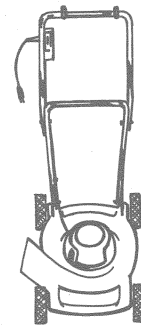

FIGURE 21
Your mower should be stored in a dry place, and to save space it can be hung on a wall (Figure 21) as follows:
3. Mount brackets on the wall, spaced to fit under both sides of the handle grip. Keep mower deck and handle parallel and hang on brackets (Figure 21).